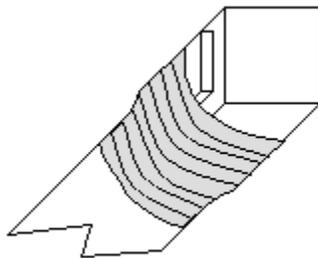

Figure 3
3. Securely and tightly wrap the closed cell foam in strapping tape, starting on the rattan below the foam, and continuing to just past the end of the rattan. Your sword should now look like Figure 3.